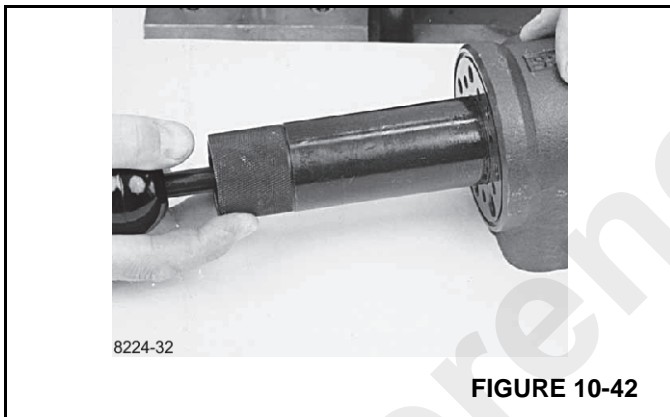

FIGURE 10-42
- 11. Draw the inner and outer parts of the assembly tool out of the steering unit bore, leaving the guide from the inner part in the bore (Figure 10-42).